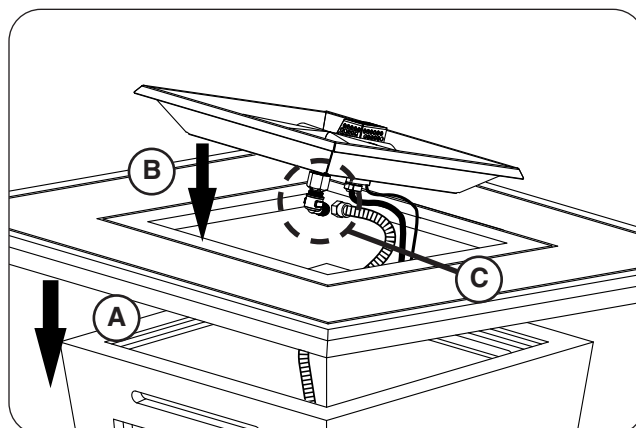

Fig. 29-2 Place top, burner, and connect flex
3. **Carefully** place the top on the unit (see Fig. 29-2, A).
4. Drop the burner assembly into the opening in the center of the firetable top, with the two burner pan holes facing toward the door (see Fig. 29-2, B).
5. Locate the flex connector (marked OUT) that is coming off the valve assembly. Route it to the connection found on the underside of the burner assembly and connect. Tighten securely. See Fig. 29-2, C.